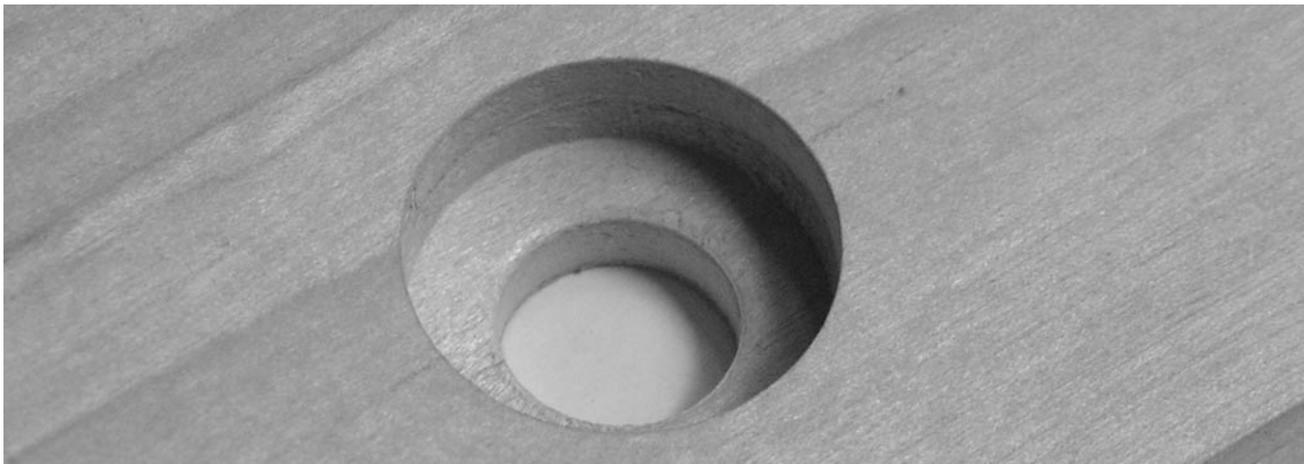

figure 3
The drilling of the holes for the 11-213 PCB involves marking the location of the holes, counterboring three 7/8" holes and drilling a 1/2" hole through the cabinet at the center of each counterbore. A counterbore is a term for a hole that is not drilled completely through a surface and forms a cylindrical cutout in the surface that is drilled. The bottom of a well made counterbore should be flat. In the following operations, accuracy is important, as is proper depth of the counterbore. Figure 3 below shows a properly drilled counterbore.
- 7) At the center of the counterbore, drill a 1/2" hole through the bottom of the cabinet. See figure 3 for an example of how a counterbore should look when complete.